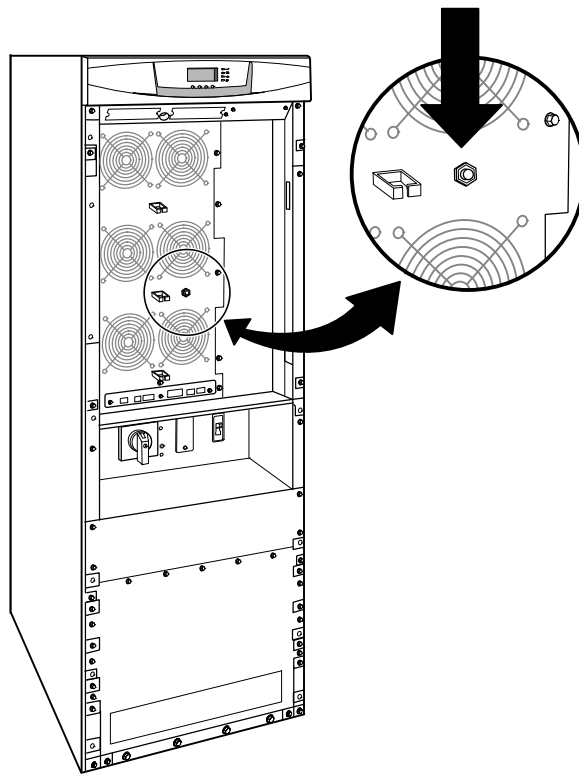

Figure 54. Start-on-Battery Button
3. Push the red start-on-battery button on the UPS (see Figure 54).